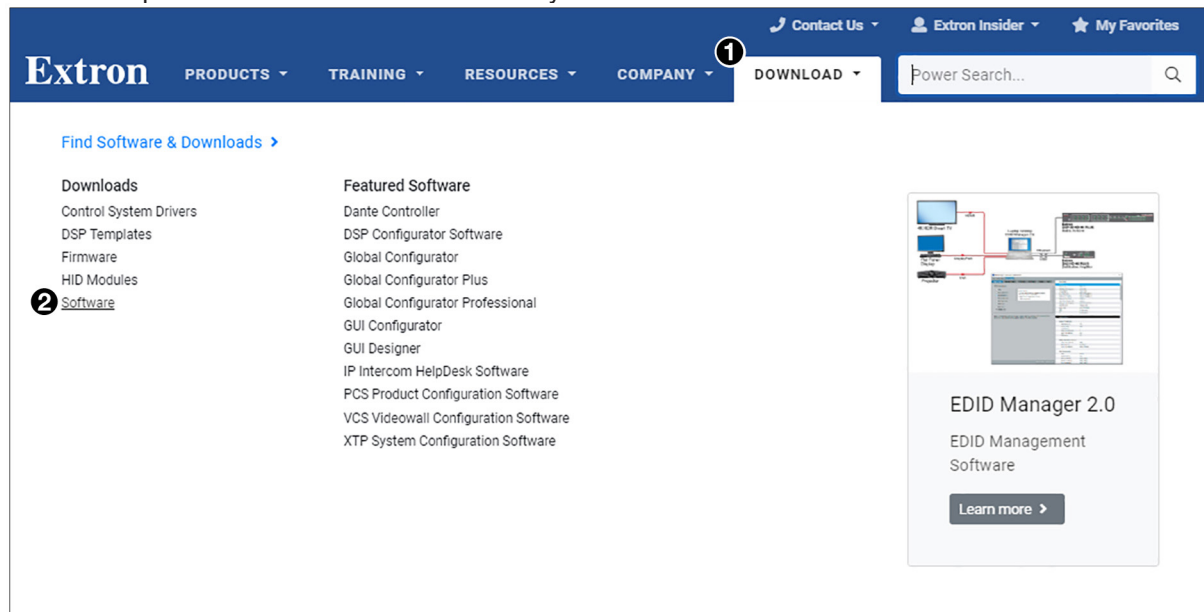
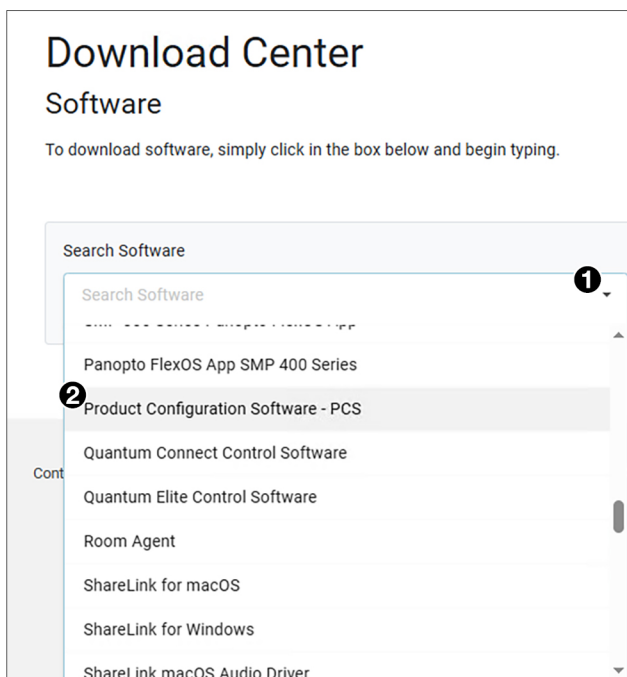

Figure 16. Download Center Page on the Extron Website
Figure 17. PCS Links on Software Download Center Screen
1. On the Extron website, hover the pointer over the **DownLoad** tab (see figure 16, ❶).
2. Click the **Software** link (❷) in the DownLoads column.
- On the Download Center screen, click on the down arrow in the **Search Software** box to see a list of the downloadable software (see figure 17, ❶). If you need an Extron Insider ID number to access this box, see your Extron representative.